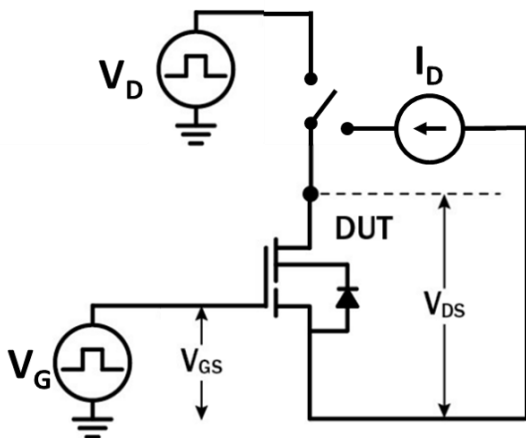

Figure 19. Dynamic $R_{DS(on)eff}$ Test Circuit
- f. Dynamic R_{DS(on)}, 100% tested; see Figures 19 and 20 for test circuit and conditions